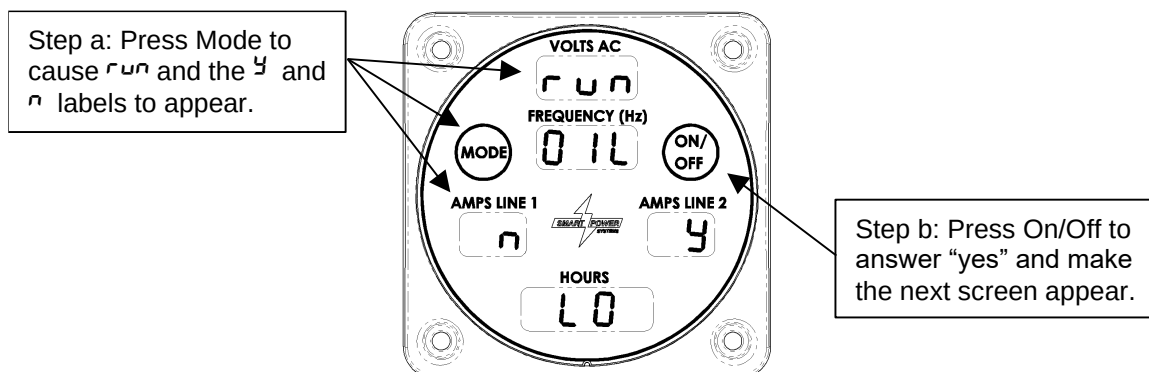

Figure 23 – Low Oil Fault Override Display
- a. From the Normal mode display, press Mode, as if you wanted to display the oil temperature. The screen shown in Figure 23 will be displayed instead, asking if you want to "Run [with the] Oil Lo[w]." This screen will also be displayed if you attempt to start the generator with the condition present.